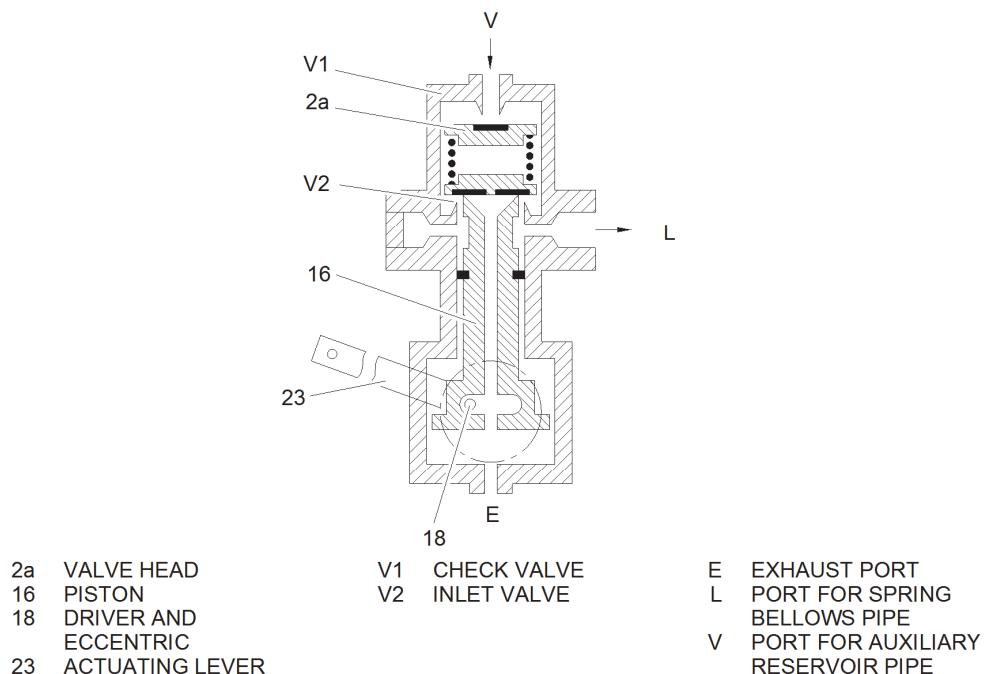

Figure 2-21: Charging
As the actuating lever (23) is increasingly deflected, the piston (16) is pushed further and further upward and - being appropriately shaped - opens the housing bore by an ever-increasing amount. See Figure 2-21. In the un-throttled version of the leveling valve, the charging bore is opened wide once the end of the dead motion is reached. The car body is raised. The actuating lever returns to its horizontal position as soon as the original level setting is reached again. The leveling valve is at the lap position and the inlet valves (V1) and (V2) are closed.